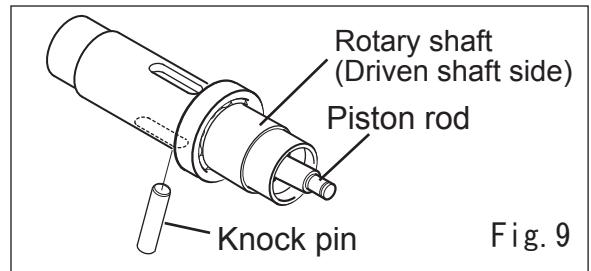

Fig. 9
- h. Push the knock pin (18) with your finger or by using a plastic hammer if it is sticky, which will allow to pull out the piston rod (17) from the rotary shaft. (Fig. 9)